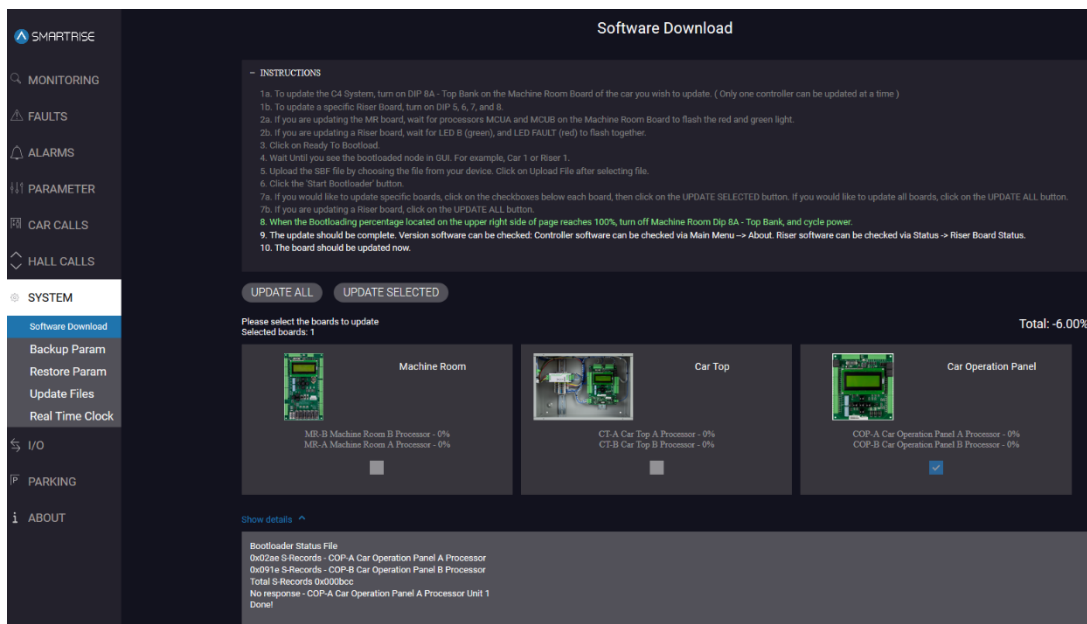

Figure 41: SYSTEM Screen – Software Download – No Response
- When all boards are selected to be updated and a board is not present, the system will continue to communicate then times out. A no response message is displayed in the Show Details display. See Figure 41.